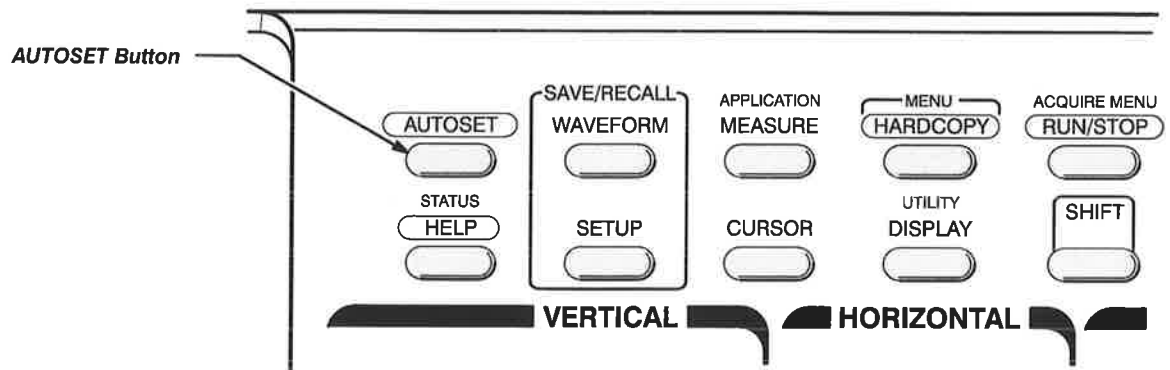

Figure 1-8: AUTOSET Button Location
2. Press **AUTOSET** (see Figure 1-8) and observe the stable waveform display.